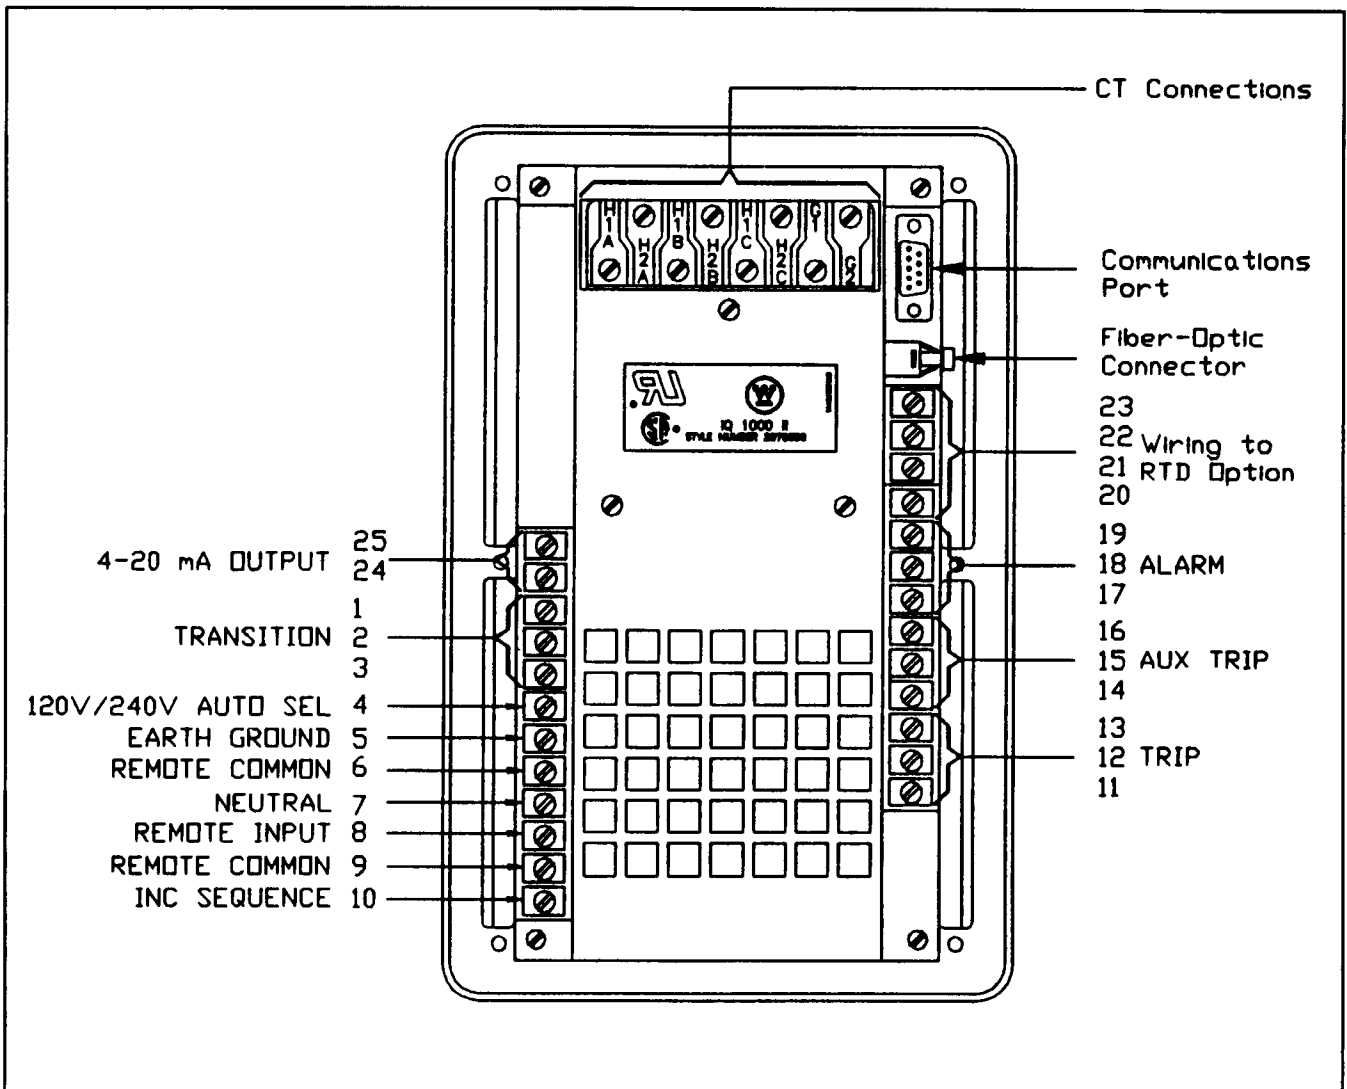

Figure 6.1 — IQ-1000 II Wiring Terminals
6.2 Initial AC Power Checks — The following procedures describe the initial items to be performed when power is first applied to the IQ-1000 II. Refer to Figure 6.1 as necessary.